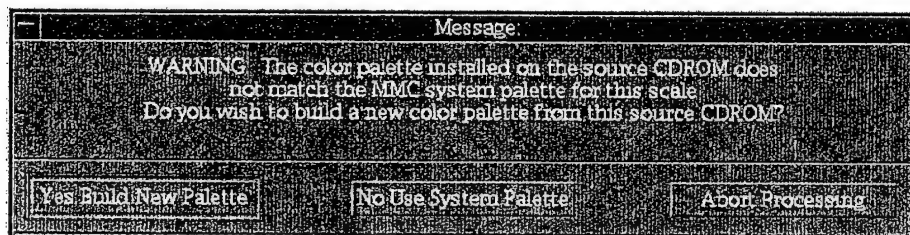

Figure 3. Color palette warning message
- f. This CDROM contains a new color palette file, so a warning dialog box appears (figure 3) stating that the color palette installed on the CDROM does not match the MMC system palette. Click on *Yes Build New Palette*.